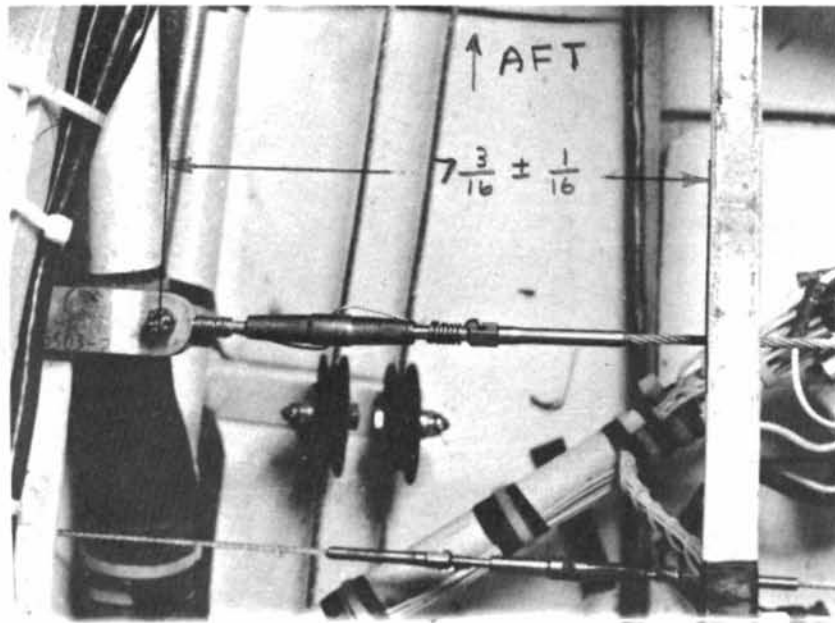

FIGURE 6-2 BELLCRANK NEUTRAL POSITION
d. Measure cable tension between bellcranks for 19 lbs. ± 2 . Adjust if necessary using the two turnbuckles under the instrument panel attaching the control cable to the chain. Make certain that the distance from the CL of bolt hole attaching the cable to the right hand bellcrank and the steel cross member (perpendicular to cable) is $7\frac{3}{16} \pm \frac{1}{16}$ when the control wheel is in the neutral position. See Figure 6-2.